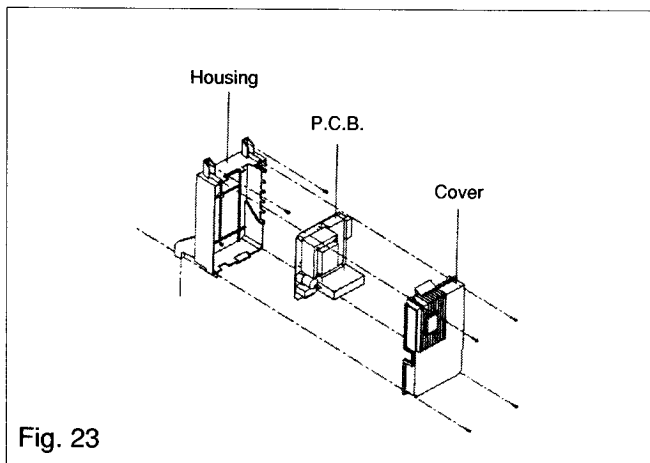

Fig. 23
6.10 PRINTED CIRCUIT BOARD (PCB) (see fig. 23)